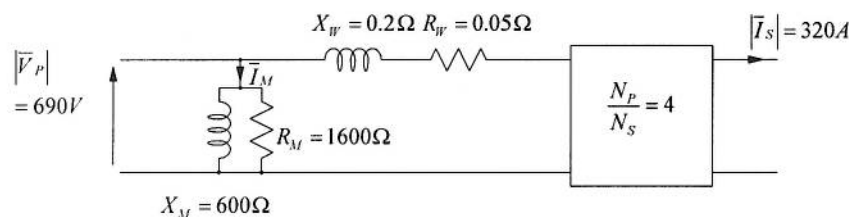

Figure 1.1 Annotated Transformer Equivalent Circuit
- b) Figure 1.1 shows a transformer equivalent circuit annotated with various voltage and current measurements.